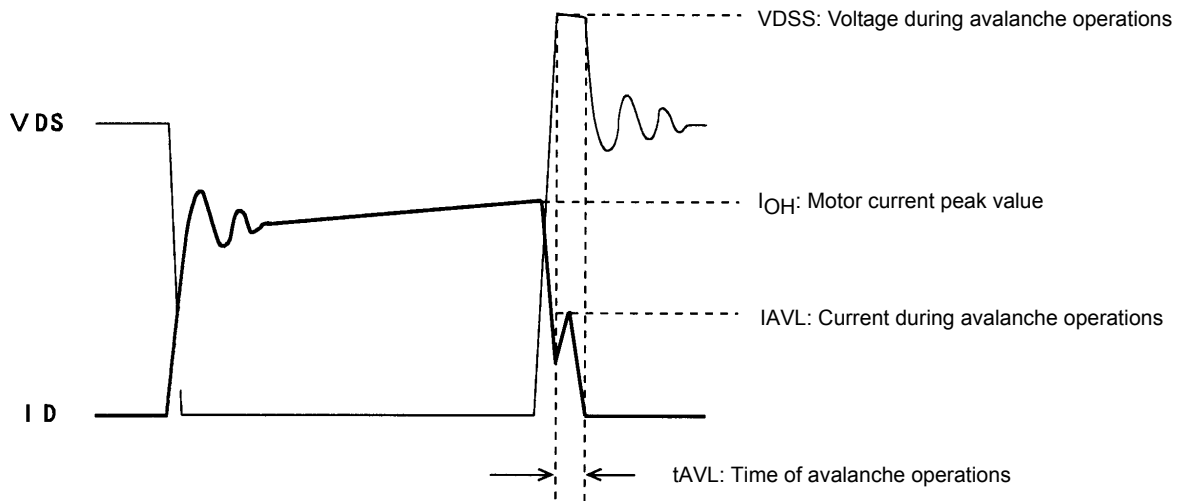

Figure 1 Output Current,  $I_D$ , and Voltage,  $V_{DS}$ , Waveforms 1 of the STK672-7\*\* Series when Driving a 2-Phase Motor with Constant Current Chopping
When driving a 2-phase Stepper motor with constant current chopping using an STK672-7\*\* Series hybrid IC, the waveforms shown in Figure 1 below result for the output current,  $I_D$ , and voltage,  $V_{DS}$ .
Although the waveforms during avalanche mode are given in Figure 1, sometimes an avalanche does not result during actual operations.
- Increases in  $V_{DS}$ ,  $t_{AVL}$ , and  $I_{AVL}$  in Figure 1 due to an increase in the supply voltage from 24V to 36V.
If the factors above are negligible, the waveforms shown in Figure 1 become waveforms without avalanche as shown in Figure 2.